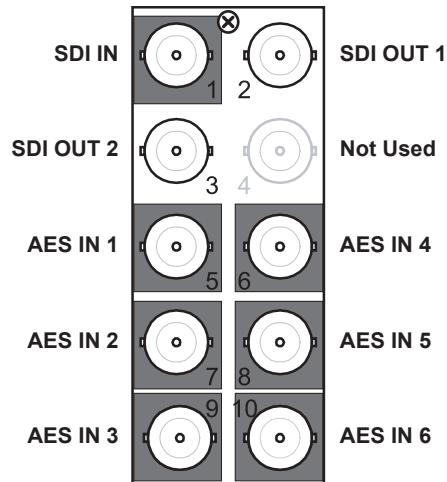

Figure 5.1 Cable Connections for the SFS-8622-A
**Figure 5.1** illustrates the cabling designations for one SDI input, two SDI outputs, and six AES-3id 75ohm unbalanced inputs. The **AES I/O Config** is set to **6 in, 0 out**.